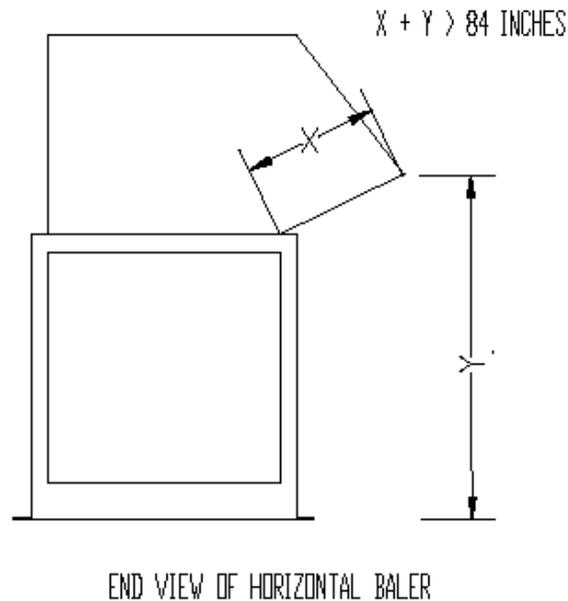

Figure 8 – Guard or loading hopper - minimum loading height for balers
- a) The installation of a guard or loading hopper with a minimum loading height above the working surface of 42 inches (106.7 cm) (dimension "Y"), and the sum of dimensions "X" and "Y" equaling 84 inches (213.4 cm) or greater (see figure 8), that shall prevent any person from contacting moving parts at the point of operation; or